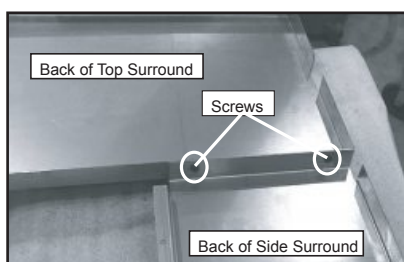

Figure 21.1
1. Secure the top panel to the surround sides with the screws provided (**Figure 21.1**).